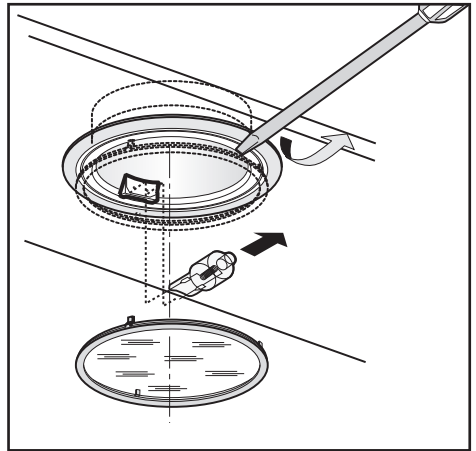

Fig.6
• Replacing halogen light bulbs (Fig. 6).